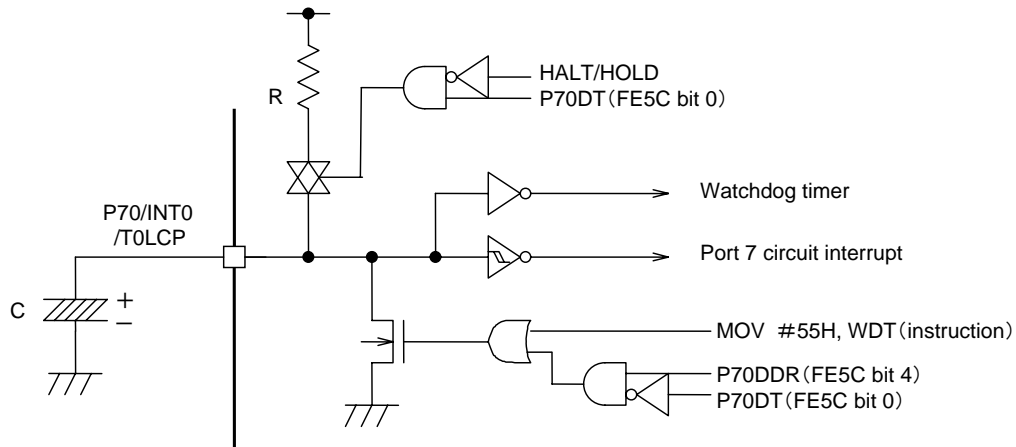

Figure 4.6.3 Sample Application Circuit with the Pull-up Resistor
- 3) The external resistor to be connected to the watchdog timer can be omitted by setting bits 4 and 0 of the P7 register (FE5C) to 0, 1 and connecting a pull-up resistor to the P70/INT0/T0LCP pin (see Figure 4.6.3).